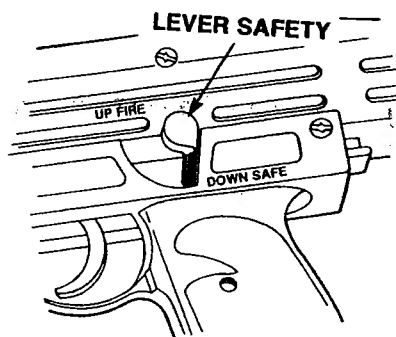

FIG. 1
- A. To put the pistol on safe, locate the lever safety above the left hand grip. Swing the lever all the way down. ("Down Safe" position). The safety is not on unless it is in this position. The pistol cannot be fired when on safe. (Fig. 1)